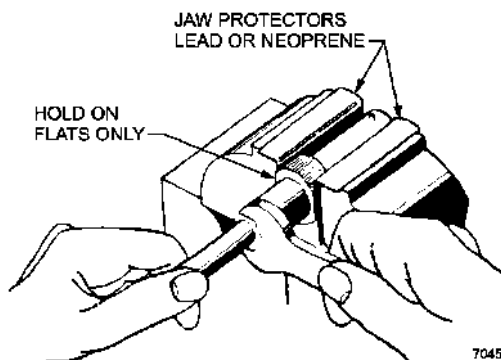

Figure 12-13 Tightening Braid Clamp Nut into Plug or Jack Body
- i. When assembling the connector, always start the clamping nut into the body by hand, then hold the body assembly in a vice using lead or neoprene jaw protectors. (See Figure 12-13.) Hold body only on the flats. Do not use excessive pressure, since the body can be easily distorted. Tighten nut with end spanner.